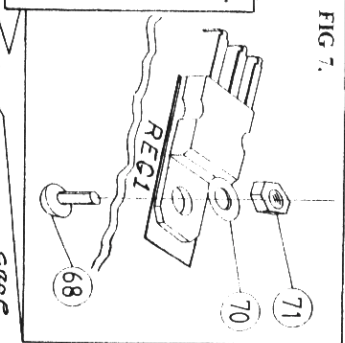

FIG. 6.
- 8) Referring to FIG. 6, fit integrated circuits (ICs) IC100, IC101, IC102, IC200, IC201 and REG1. Solder all pins.
- 8) Referring to FIG 6, fit integrated circuits (IC's) IC1 through IC4, IC100 and IC101. Solder all pins.